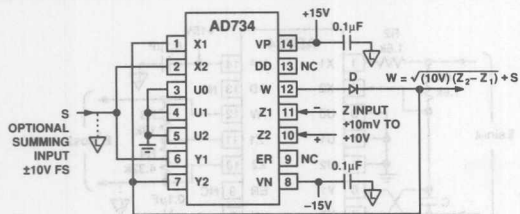

Figure 9. Connection for Square Rooting
In some cases, feedback may be connected to two of the available inputs. This is true for the square-rooting connections (Figure 9), where W is connected to both X_1 and Y_2 . Setting $X_1 = W$ and $Y_2 = W$ in Equation (2), and anticipating the possibility of again providing a summing input, so setting $X_2 = S$ and $Y_1 = S$, we find, in shorthand form
The AD734 may be used to generate an output proportional to the square-root of an input using the connections shown in Figure 9. Feedback is now via both the X and Y inputs, and is always negative because of the reversed-polarity between these two inputs. The Z input must have the polarity shown, but because it is applied to a differential port, either polarity of input can be accepted with reversal of Z1 and Z2, if necessary. The diode D, which can be any small-signal type (1N4148 being suitable) is included to prevent a latching condition which could occur if the input momentarily was of the incorrect polarity of the input, the output will be always negative.